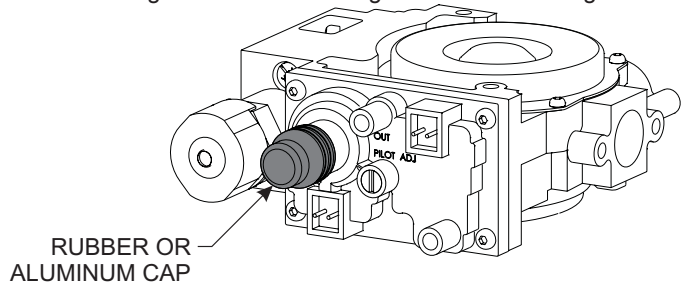

Figure 1
- Locate the gas valve. Unscrew the knurled cap on the gas valve to gain access to the regulator stem. See Figure 1.